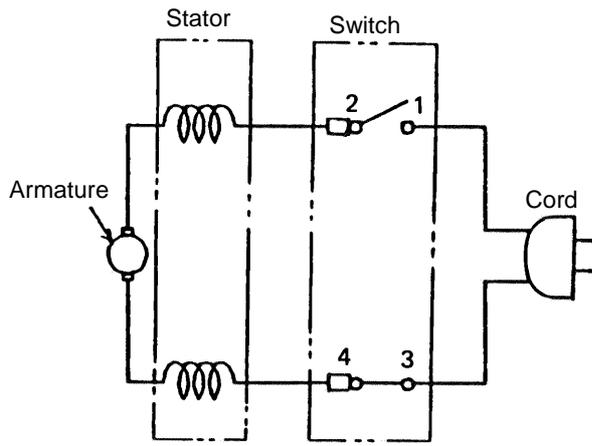

Fig. 14
- Within the Gear Cover Ass'y (3) ..... Hitachi Motor Grease, Code No. 930035
(6) Wiring Diagrams (See Fig. 14 - 17)